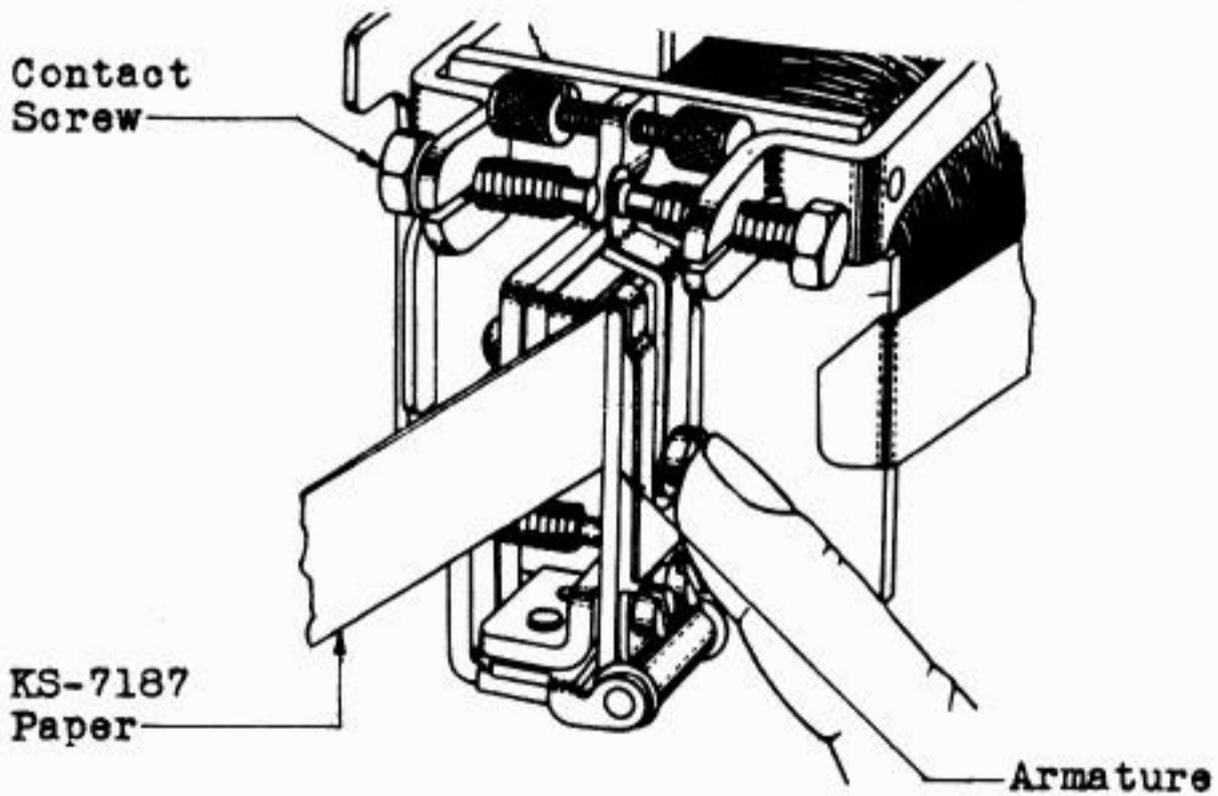

Fig. 26 - Method of Cleaning Armature and Core on L, N, and S Type Relays
12. To add a figure illustrating cleaning between armature and core on L, N and S type relays. (Fig. 26).